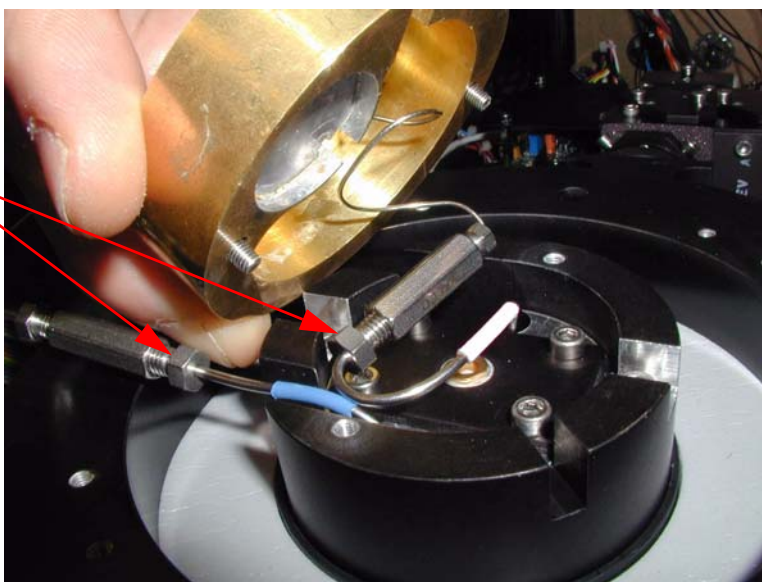

Figure B-4: In-Line Unions
5. Disconnect the short pieces of 1.6mm OD stainless steel tubing from the in-line unions (shown in figure B-4) using the two ¼" Crescent wrenches.